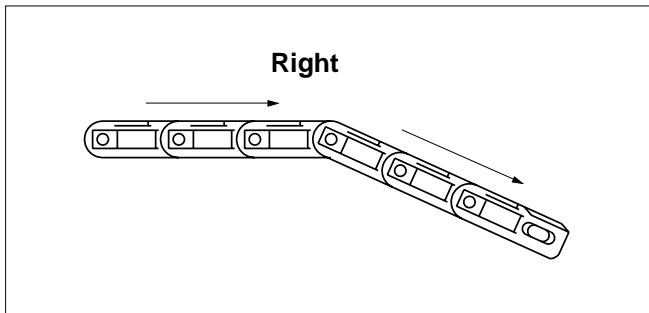

Fig. 27- Chain downflexing
- 2) That the change in angle is achieved by bending the chain downwards not upwards - as this would cause the chain to lift out of the frame (see Figures 27 and 28).